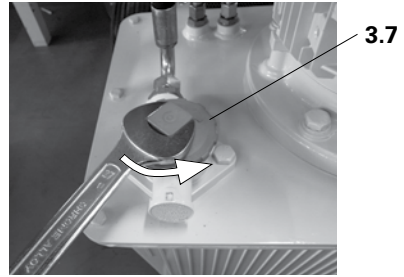

Fig. 23
1. Unscrew the plastic cap of the return flow filter (3.7) and open (Fig. 23). Plastic cap presses the filter element (3.12) into the lower part of the housing (3.13) by means of a spring.